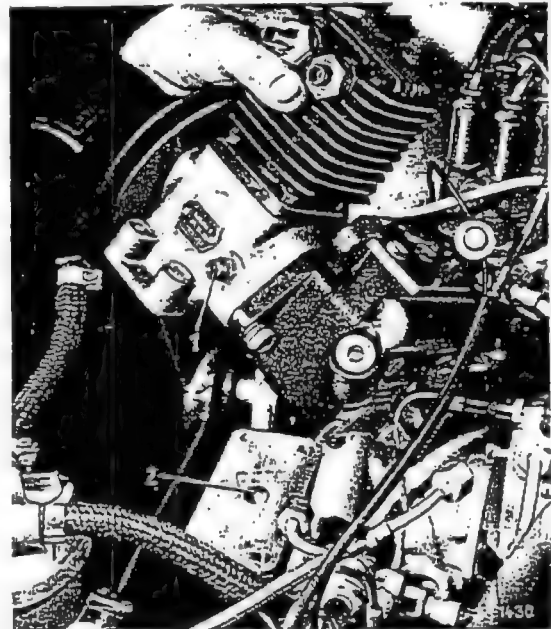

Fig. 32-15/2
2. Loosen the V-belt for the air compressor drive by turning out the tensioning screw (28) (Fig. 32-15/1).
3. Disconnect the hose lines (34) and (35) directly from the high-pressure oil pump (33) for the power steering. Unscrew the air compressor from the bearing bracket (31) and the strut (36) and remove together with high-pressure oil pump (Figs. 32-15/1 and 2).